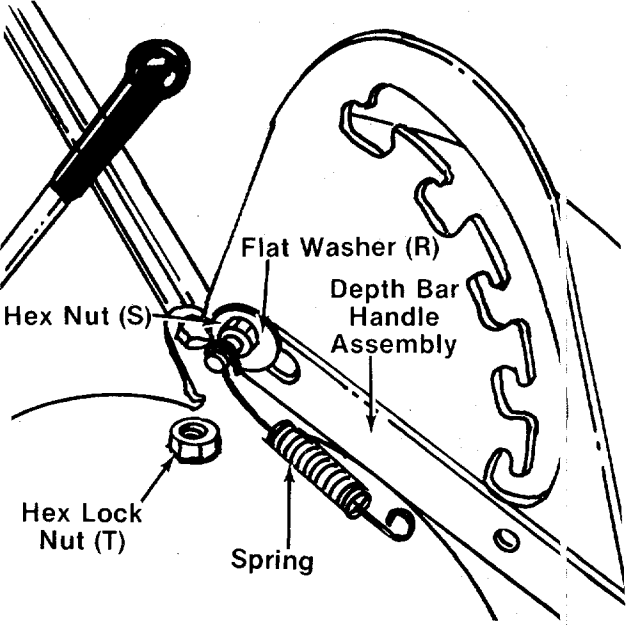

FIGURE 3.
3. Place slot in depth bar handle assembly over the spacer and hex bolt. Secure with flat washer (R) and hex nut (S), tightening securely. Place one end of spring (O) onto the bolt. Thread hex lock nut (T) on the bolt until the two nuts are approximately 1/8" apart. See figure 3.